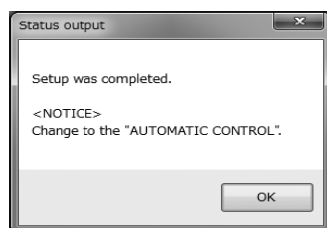

Fig.48
- ⑧ Click "OK" to change the settings to the selected values, and then click the "OK" button in the displayed message box (Fig. 48) to complete the setting process.